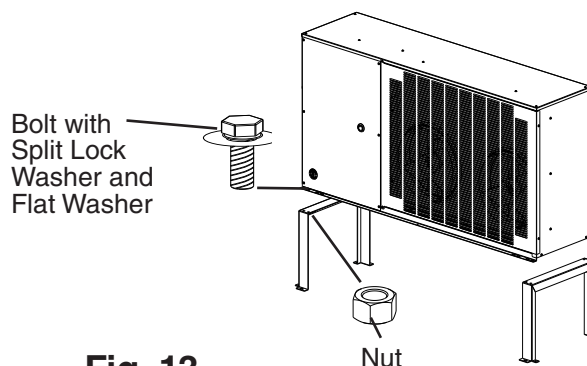

Fig. 13
- 1) Secure the legs to the remote condensing unit with the 16 bolts and nuts provided. See Fig. 13.